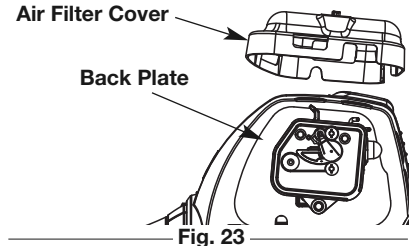

Fig. 23
5. Reinstall the air filter cover. Position the hooks on the air filter cover to the top of the back plate and lower the air filter cover down so that the air filter screw aligns with the screw hole on the back plate (Fig. 23).